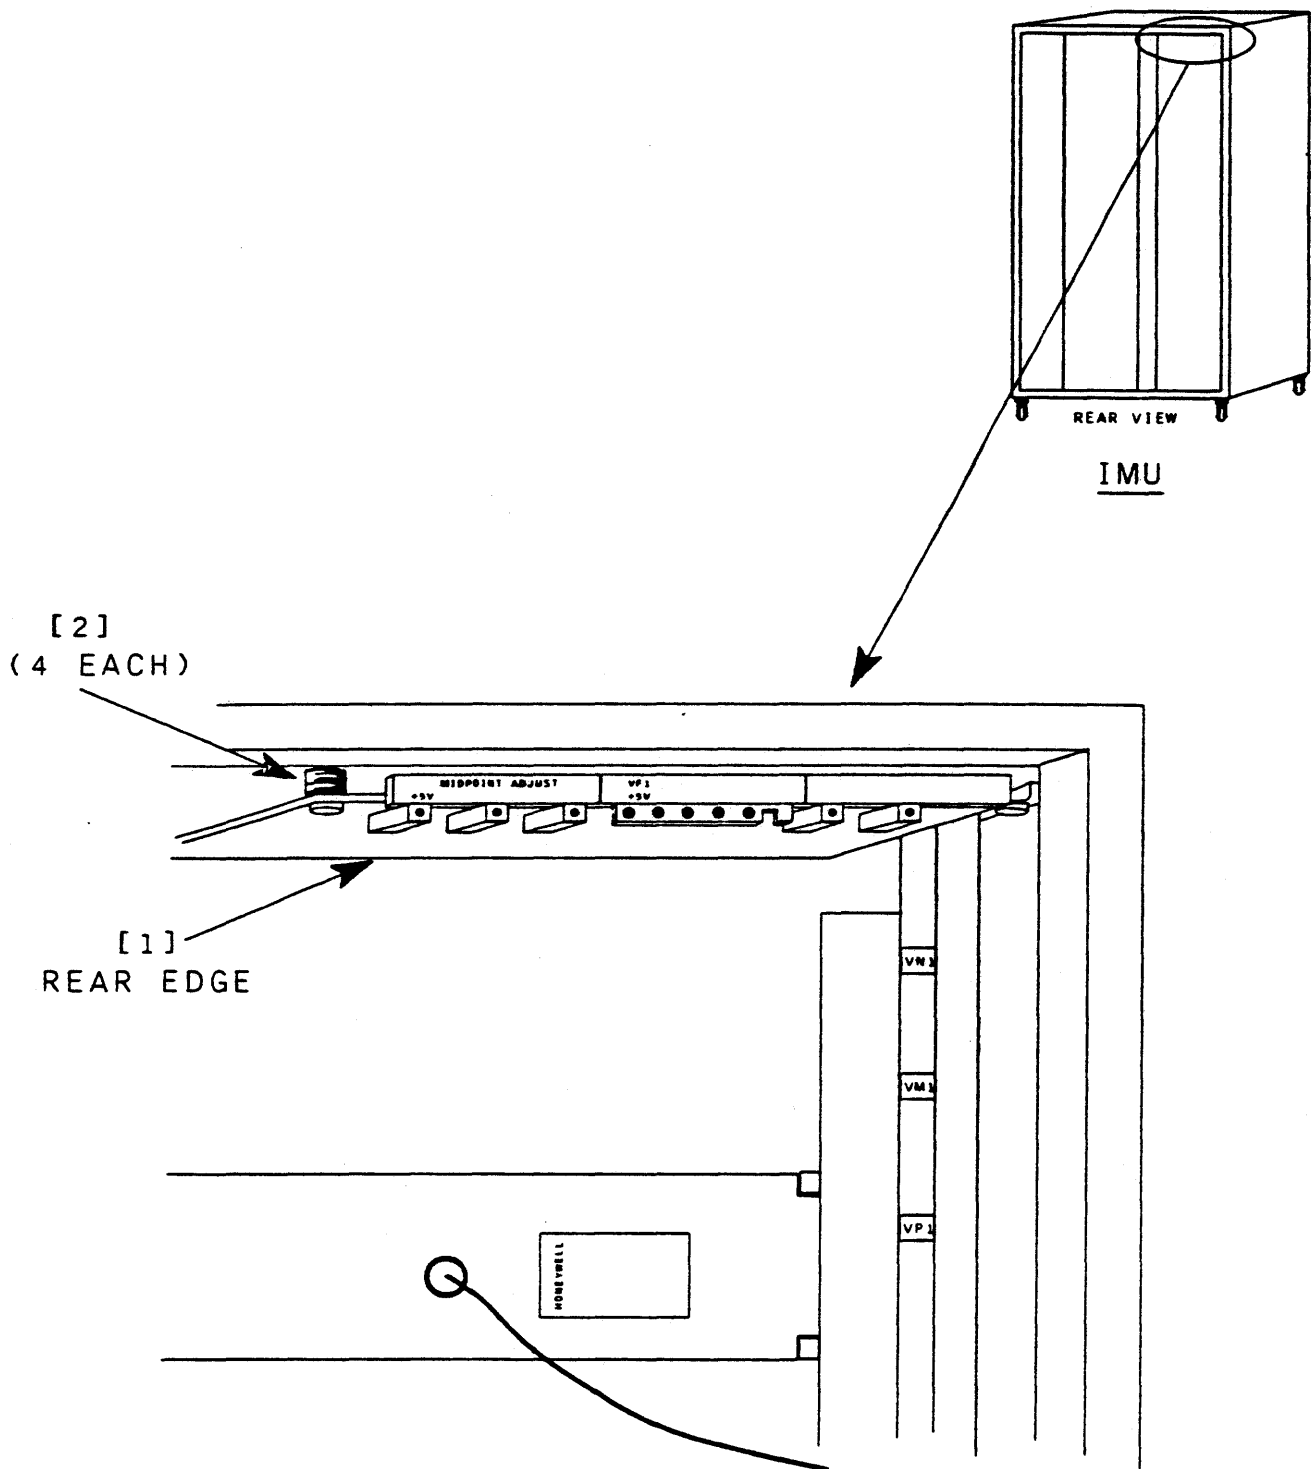

FIGURE 2.9-1. VOLTAGE MONITOR PWB REMOVAL/INSTALLATION
5. Disconnect PWB connector plugs (Figure 2.9-1, [1]).
6. Using cross-tip screwdriver, remove retaining hardware, spacers, and PWB (Figure 2.9-1, [2]).